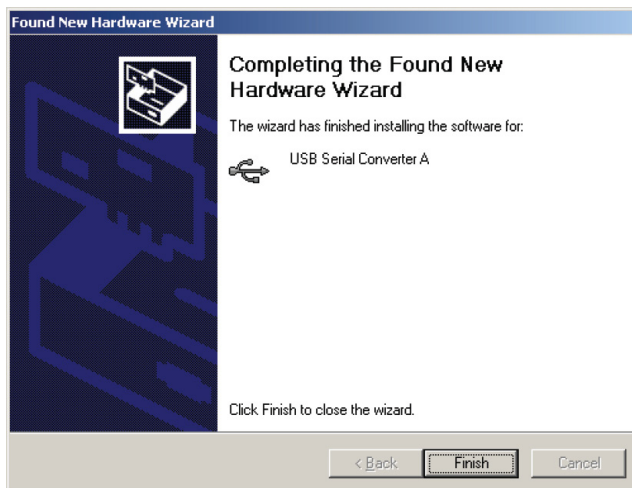

Figure 6. Hardware Wizard Screen 4.
6. The screen in Figure 6 will appear. Click Finish.